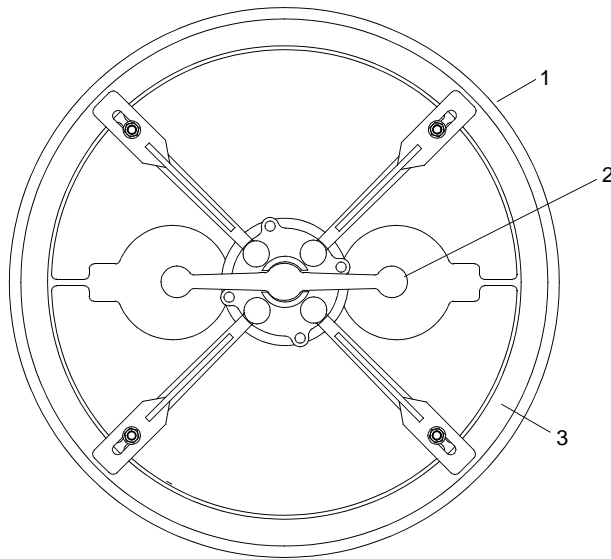

Figure 4. Escape Scuttle
1. Locate emergency escape scuttle (figure 4, item 1).
2. Grasp emergency escape scuttle handle (figure 4, item 2), push in and turn one quarter turn clockwise to release scuttle door (figure 4, item 3)
3. Push scuttle door (figure 4, item 3) open.